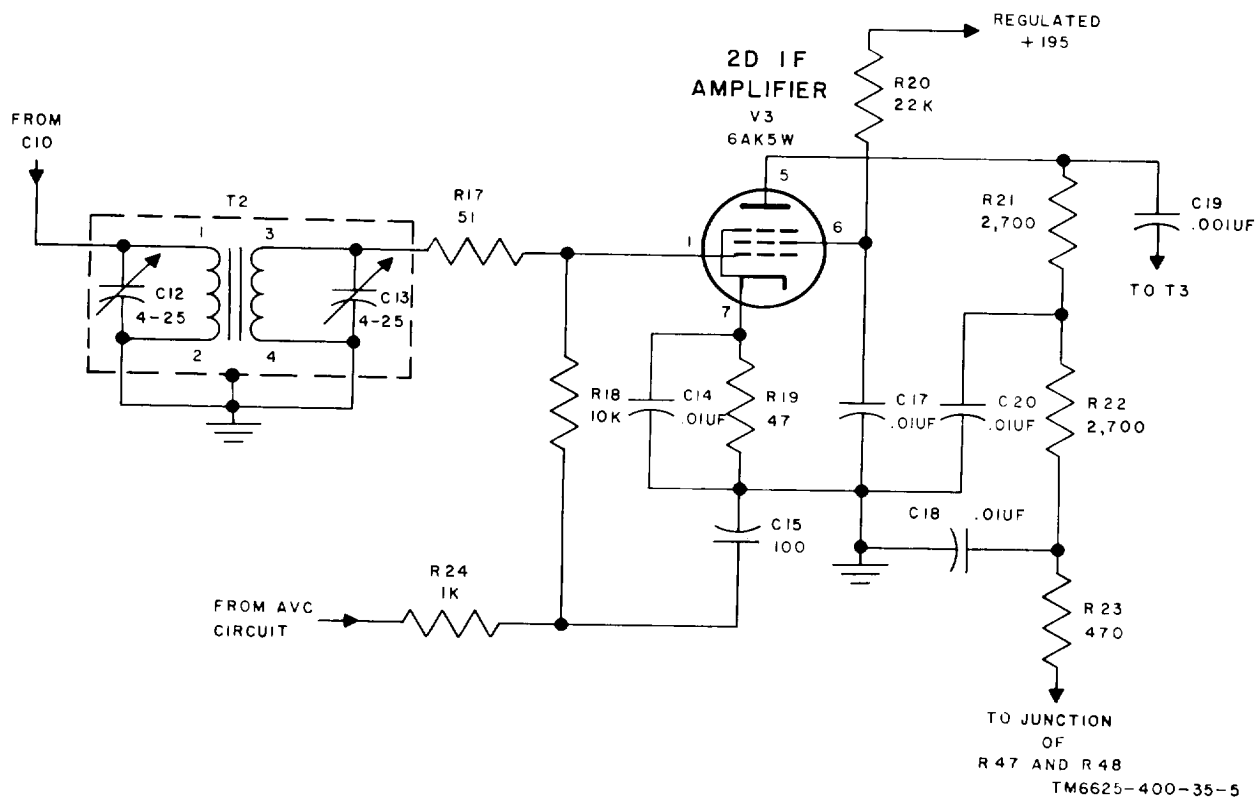

Figure 5. Second if. amplifier, schematic diagram.
b. Tube V3 (fig. 5) is the second if. amplifier. The signal input is coupled through T2 to the grid of V3. Capacitors C12 and C13 tune T2. Resistor R17 suppresses parasitic oscillations. Resistor R18 is the grid return to the avc supply. Avc decoupling is obtained by R24 and C15. Operating bias for V3 is produced by the drop across R19, which is bypassed by C14. Resistor R20, which is bypassed by C17, is the screen voltage-dropping resistor. The plate load resistor for V3 is R21. Capacitors C18 and C20 along with resistors R22 and R23 form the plate supply decoupling circuit. Capacitor C 16 and inductor L14 (fig. 32) are the filament bypass. The output of V3 is coupled to T3 through C19.